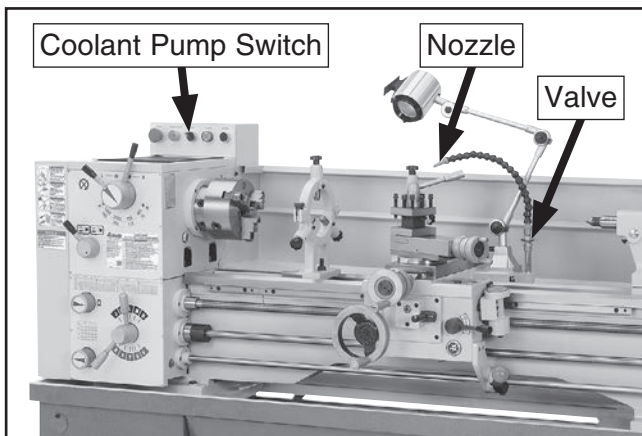

Figure 118. Coolant controls.
Use **Figures 118–119** to identify the locations of the coolant system controls and components.
3. Turn coolant pump **ON** and open valve (see **Figure 118** on **Page 68**) to pump old fluid out of reservoir. Turn pump **OFF** immediately after fluid stops flowing.